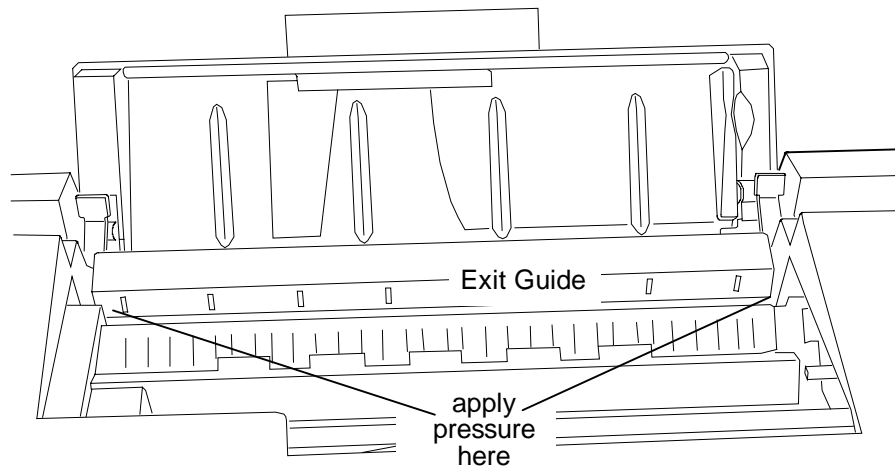

Figure 1.
4. Position both thumbs at the lower, front corners of the Exit Guide (Figure 1). Apply modest pressure simultaneously toward the rear and up to unlatch the Exit Guide.
1. Hold the Exit Guide so the star wheels (10) are facing the front of the printer.
4. Position both thumbs at the lower, front corners of the Exit Guide (Figure 1). Apply moderate pressure simultaneously toward the rear and down to latch the Exit Guide.